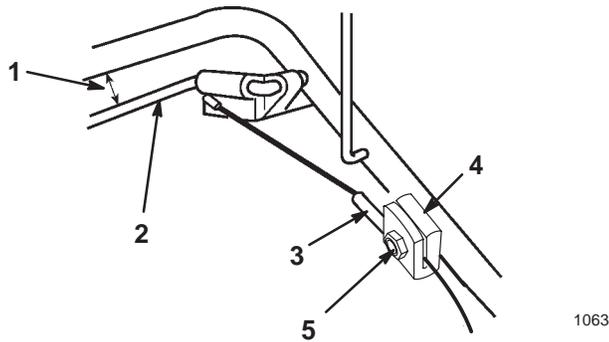

Figure 27
1. Loosen the nut on the cable support (Fig. 27).
2. Hold the self-propel drive bail 1 to 1½ in. (25 to 38 mm) from the handle (Fig. 27).